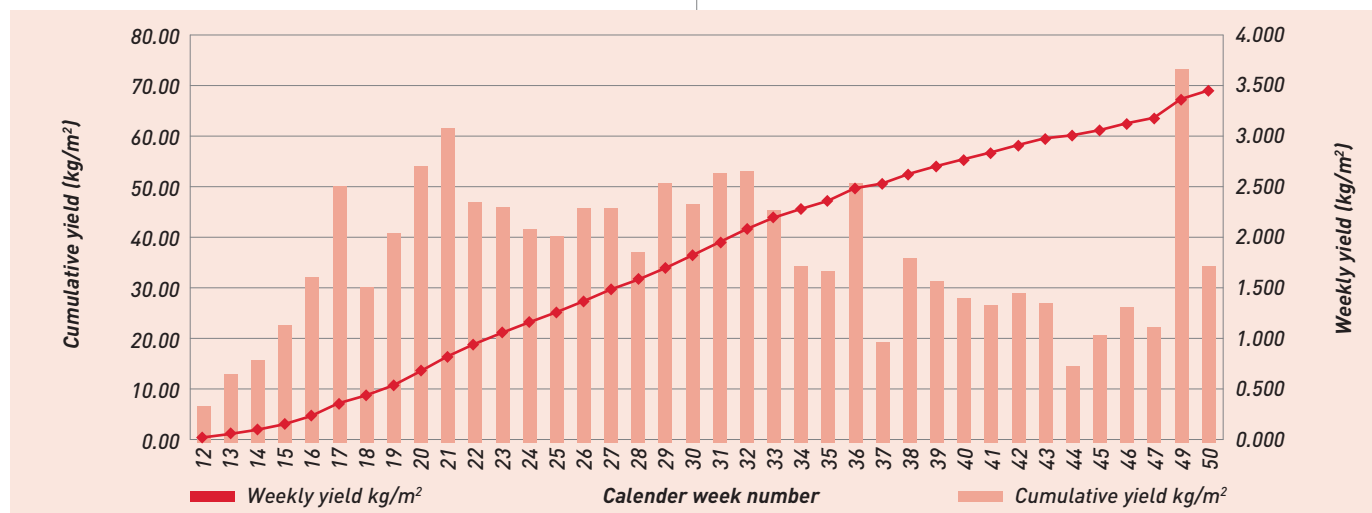

Figure 1.
**Rates are from a Dutch greenhouse and are influenced by weekly production /m² shown in Figure 1. These rates assume a weekly harvest of approximately 2.0kg/m².*